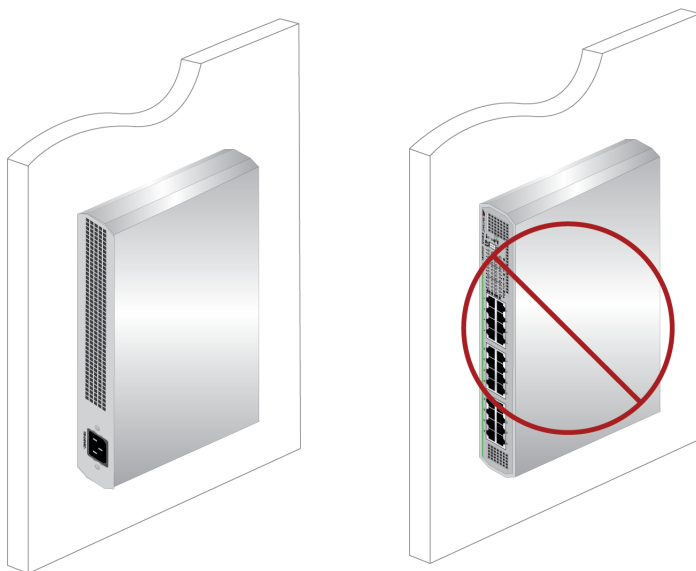

Figure 18. Wall Installation for the AT-GS910/24 Switch
- The AT-GS910/24 switch must be mounted on the wall in portrait orientation with the rear panel facing left. See Figure 18 on page 36 as examples.